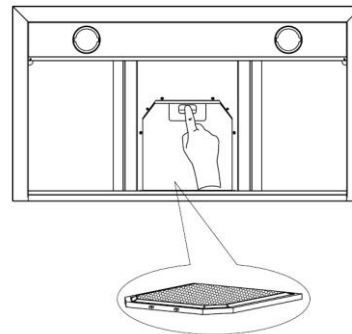

Fig.11
- Charcoal filter (where applicable) (Fig. 11)**
- Remove the saturated charcoal filter from the blower as shown.(Fig.11)